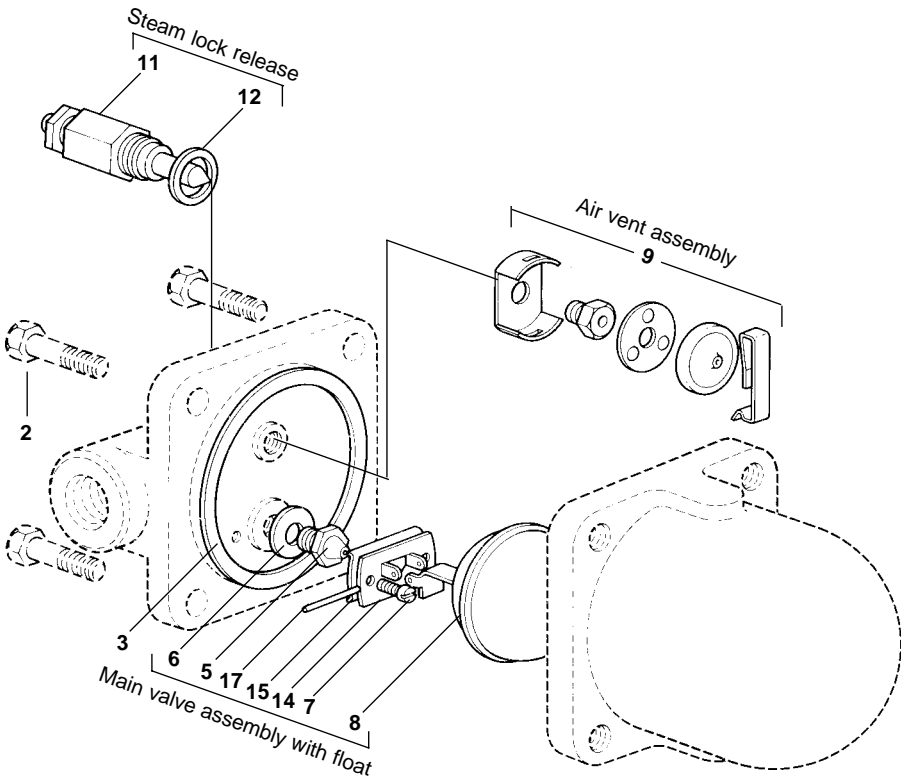

Fig. 2
6.2 How to fit the main valve assembly (refer to Fig. 2, Section 7):
- Fit the valve seat (5) to the body (Do not use gasket paste).
- Attach the support frame (15) and the pivot frame (14) to the body with the assembly set screws (7), but do not tighten.
- Fit the float arm to the pivot frame using the pin (17) and by moving the complete assembly centre the valve head onto the seat orifice.
- Tighten the assembly set screws (7) to the recommended tightening torque (see Table 1).
6.3 How to fit the air vent assembly (refer to Fig. 2, Section 7):
- Remove the spring clip, capsule and saucer plate (9).